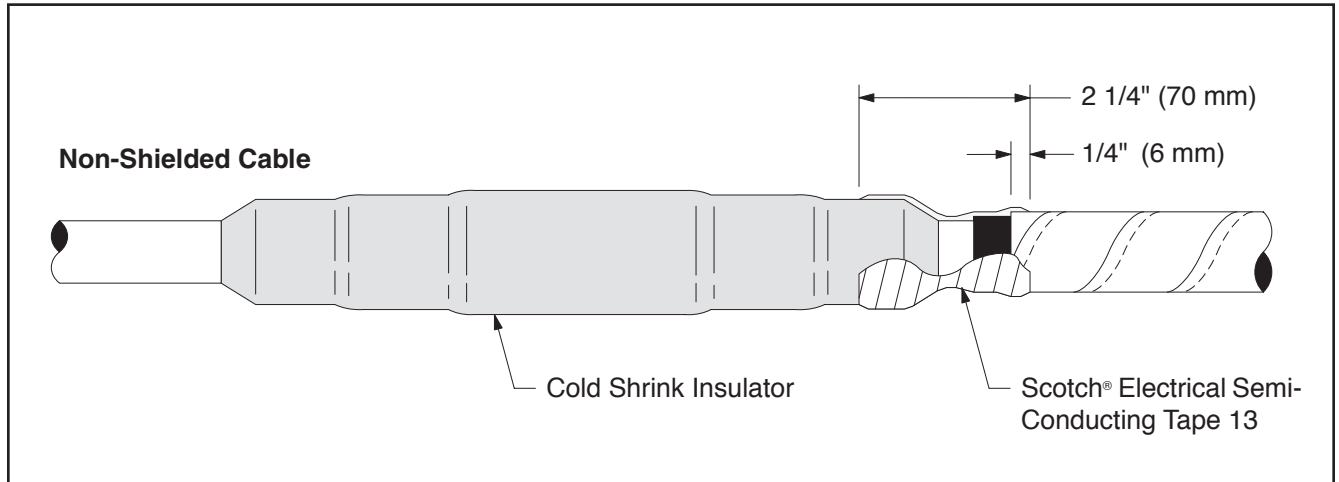

**Figure 13**
- c. **For 8kv rating only**, apply 2 half-lapped layers of stretched Scotch® Linerless Rubber Splicing Tape 130C over the cold shrink insulator between the end tapers (*Figure 13*).